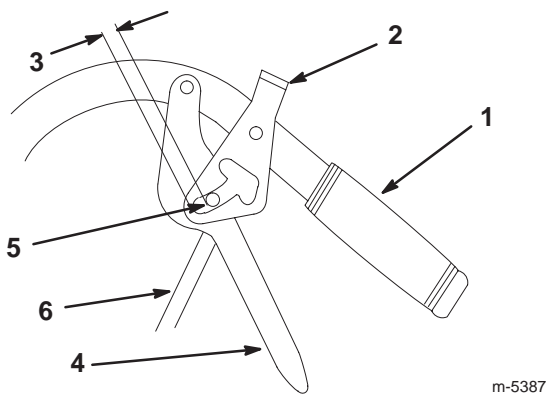

Figure 6
3. Adjust the control rod length by threading the rod in or out of the rod fitting until there is a 3/16 to 1/4 inch (5 to 6 mm) clearance between the control rod and the bottom of the neutral/parking brake lock (Fig. 6).
6. Adjust the control rod length by repeating steps 3 and 4 (Fig. 6).